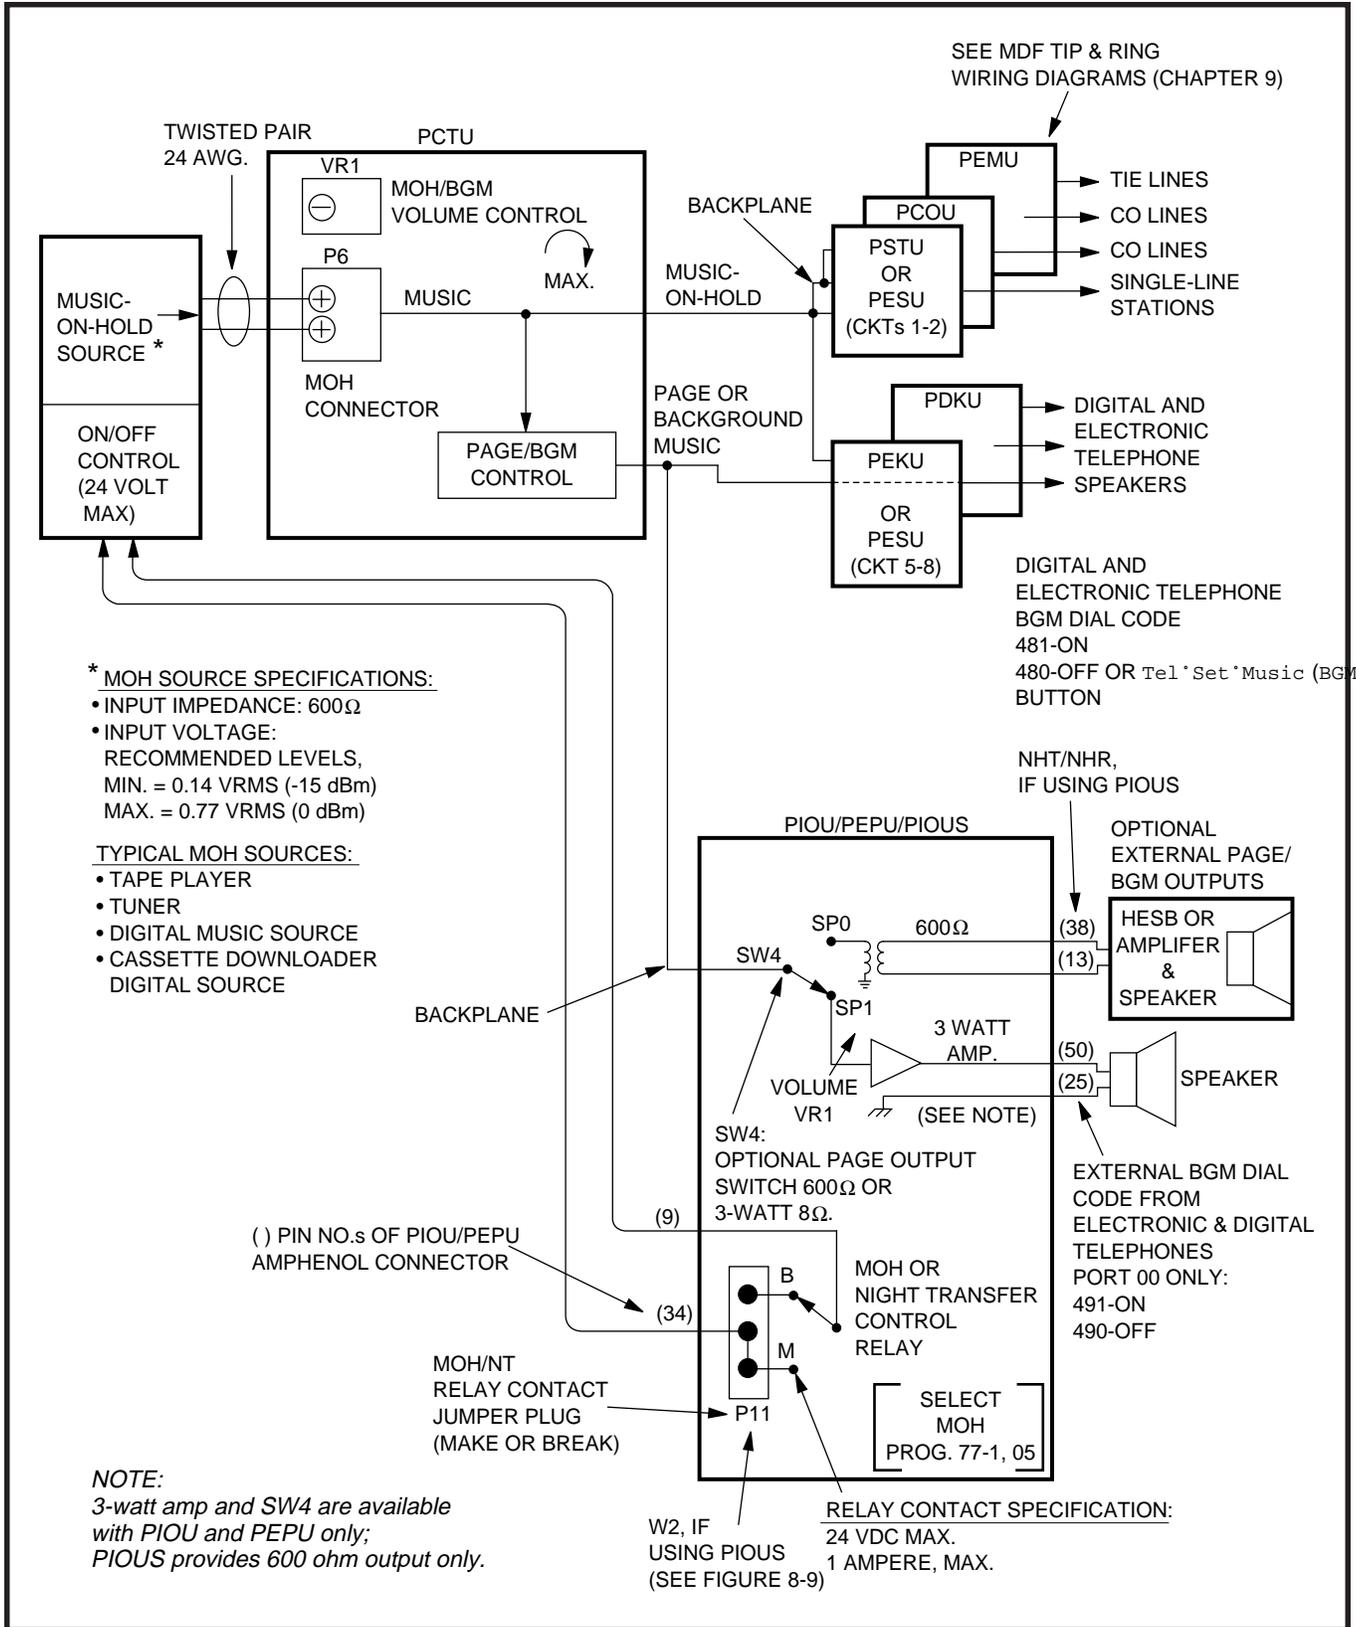

FIGURE 8-3
3.00 STRATA DK systems provide a MOH option for CO/E & M TIE lines and telephones connected to the system. A variety of BGM options are also provided. (Refer to Figure 8-3.)
3.12 MOH Installation. Install the MOH option in accordance with the following steps: (Refer to Figure 8-3.)
3.22 MOH Source as BGM Installation. Install the MOH/BGM option in accordance with the following steps: (Refer to Figure 8-3.)